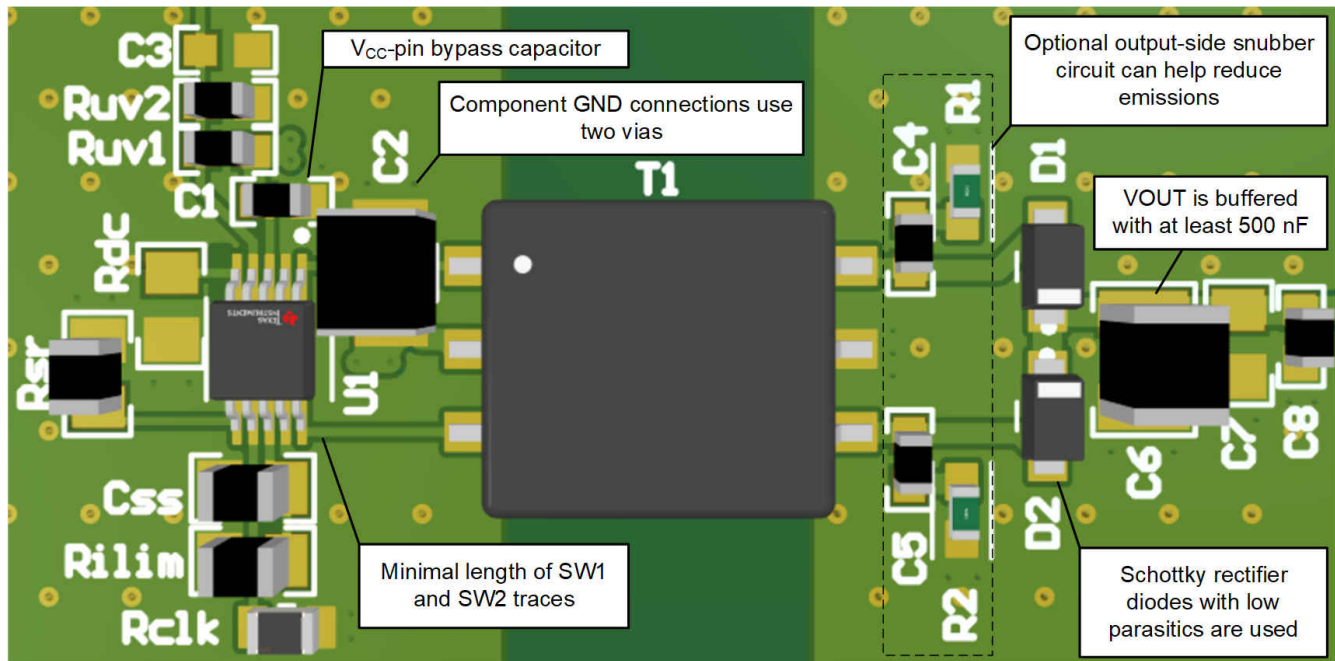

图 9-10. Layout Example of a 2-Layer Board
- The optimum placement of the V_{IN} capacitor is closest to the V_{IN} and GND pins at the board entrance to minimize the loop area formed by the bypass-capacitor connection, the V_{IN} terminal, and the GND pin. See 图 9-10 for a PCB layout example.